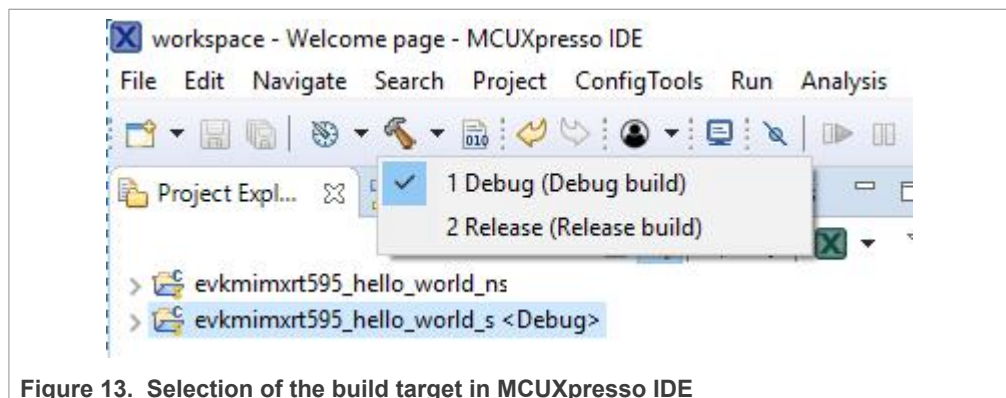

Figure 13. Selection of the build target in MCUXpresso IDE
3. Now, two projects should be imported into the workspace. To start building the TrustZone application, highlight the `evkmimxrt595_hello_world_s` project (TrustZone master project) in the Project Explorer. Then, choose the appropriate build target, **Debug** or **Release**, by clicking the downward facing arrow next to the hammer icon, as shown in Figure 13. For this example, select the **Debug** target.